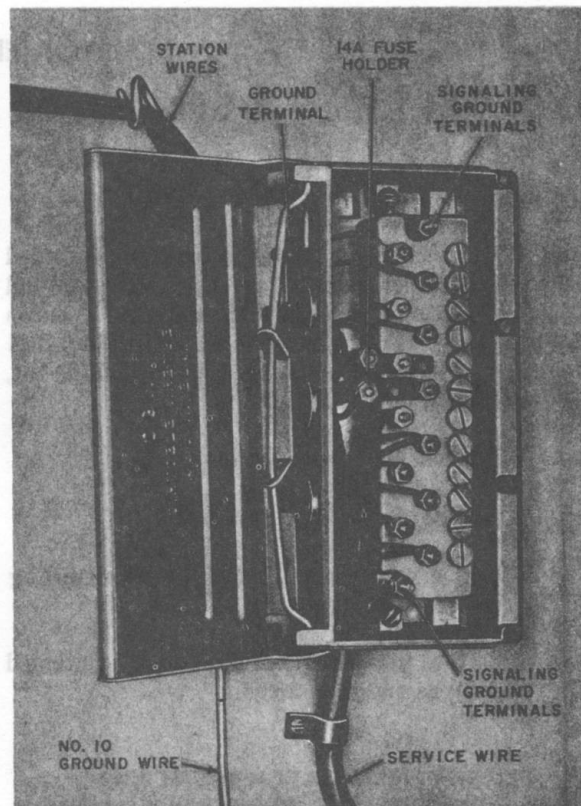
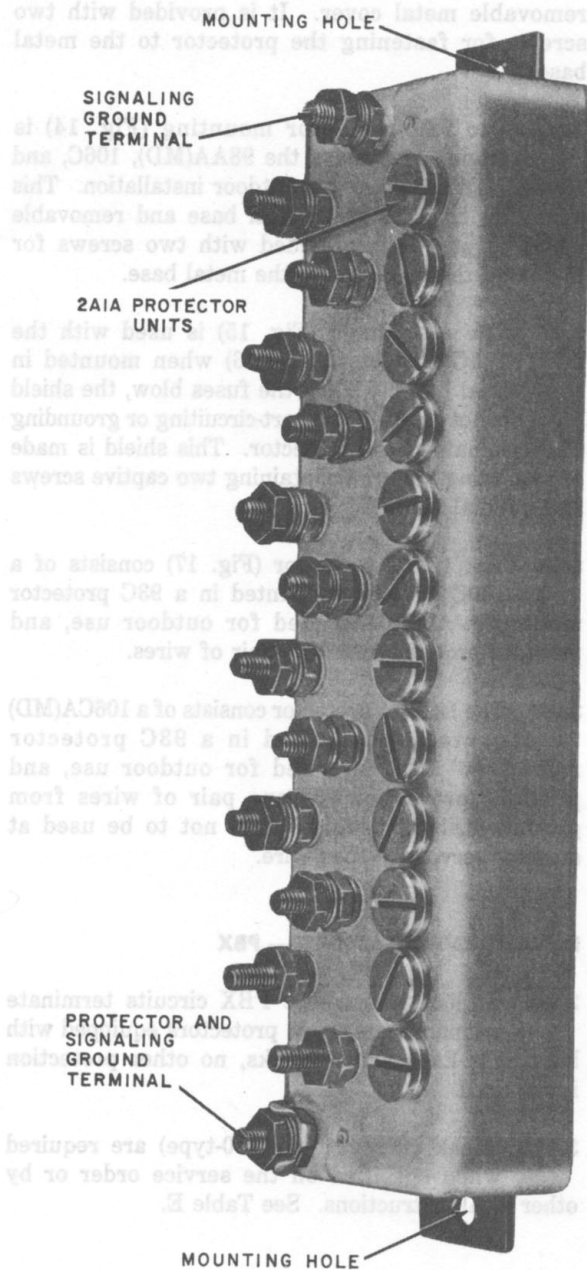
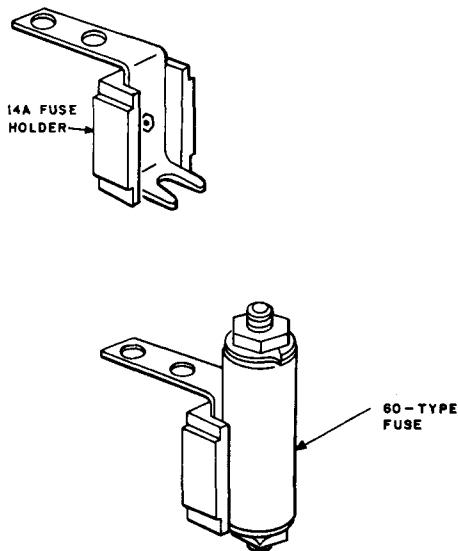
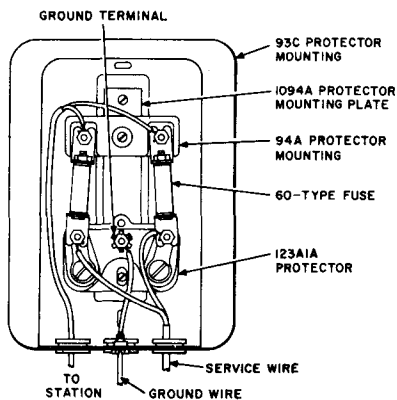

Fig. 4—116C Protector (Outdoor)
Fig. 5—117B Protector (Indoor)
Fig. 18—14A Fuse Holder
Fig. 19—Fuseless Protector Equipped With 60-Type Fuses—Outdoor Installation
2.02 The 116C (Fig. 4) outdoor and 117B (Fig. 5) indoor protectors provide protection for 6-pair multiple drop wire extending from metal sheath cable at the customer's premises.
3.12 When sneak current protection is required for pairs terminated on 116- or 117-type protectors 14A fuse holders are required. Fig. 18 shows the 14A fuse holder and Fig. 4 shows a 116C protector equipped with 14A fuse holders and 60-type fuses. Fig. 19 and 20 show 60-type fuses used with other type protector mountings and protectors.